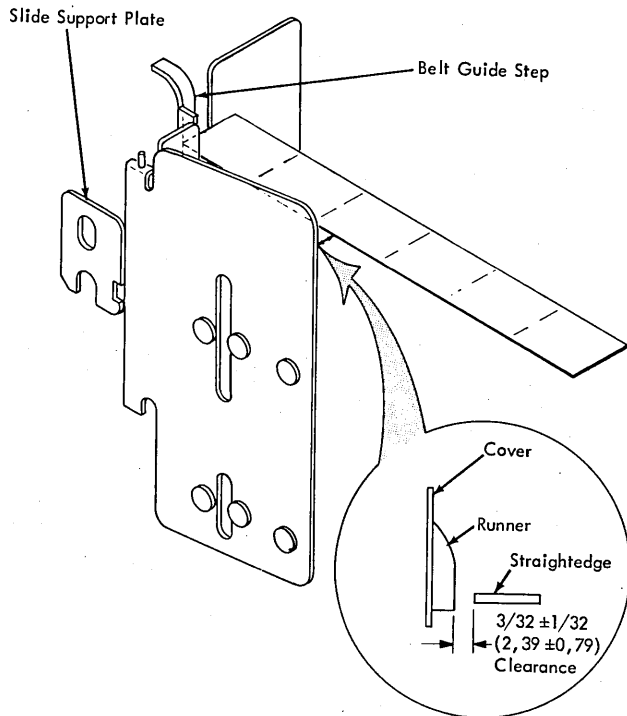

Figure 4-12. Tractor-Door Opening Limit
7. Adjust the slide support plate to limit the tractor door open position. Place a straightedge against the belt-guide step perpendicular to the tractor guide plate as shown in Figure 4-12. Adjust the slide support plate to obtain  $3/32 \pm 1/32$  in. (2,39  $\pm$  0,79 mm) clearance between the door and the straightedge. Be sure to maintain proper belt tension when tightening the plate holding nut.